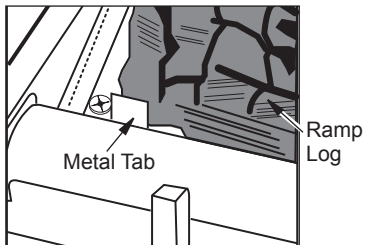
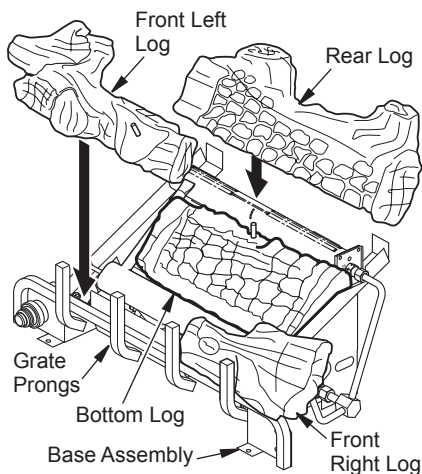

Figure 20 - Installing Log Set
Figure 21 - Installing Log Set
1. Place bottom log in center of the base assembly as shown in Figure 21. The log must sit flat on the black metal sheet and behind the left metal tab as shown in figure 20.
2. Rest rear log in back corner sections of base assembly as shown in Figure 21. Make sure log is completely vertical and not leaning in toward burner where flame will touch the log.
3. Position front right log against right side of grate prongs (see Figure 21).
4. Position front left log against left side of grate prongs (see Figure 21).